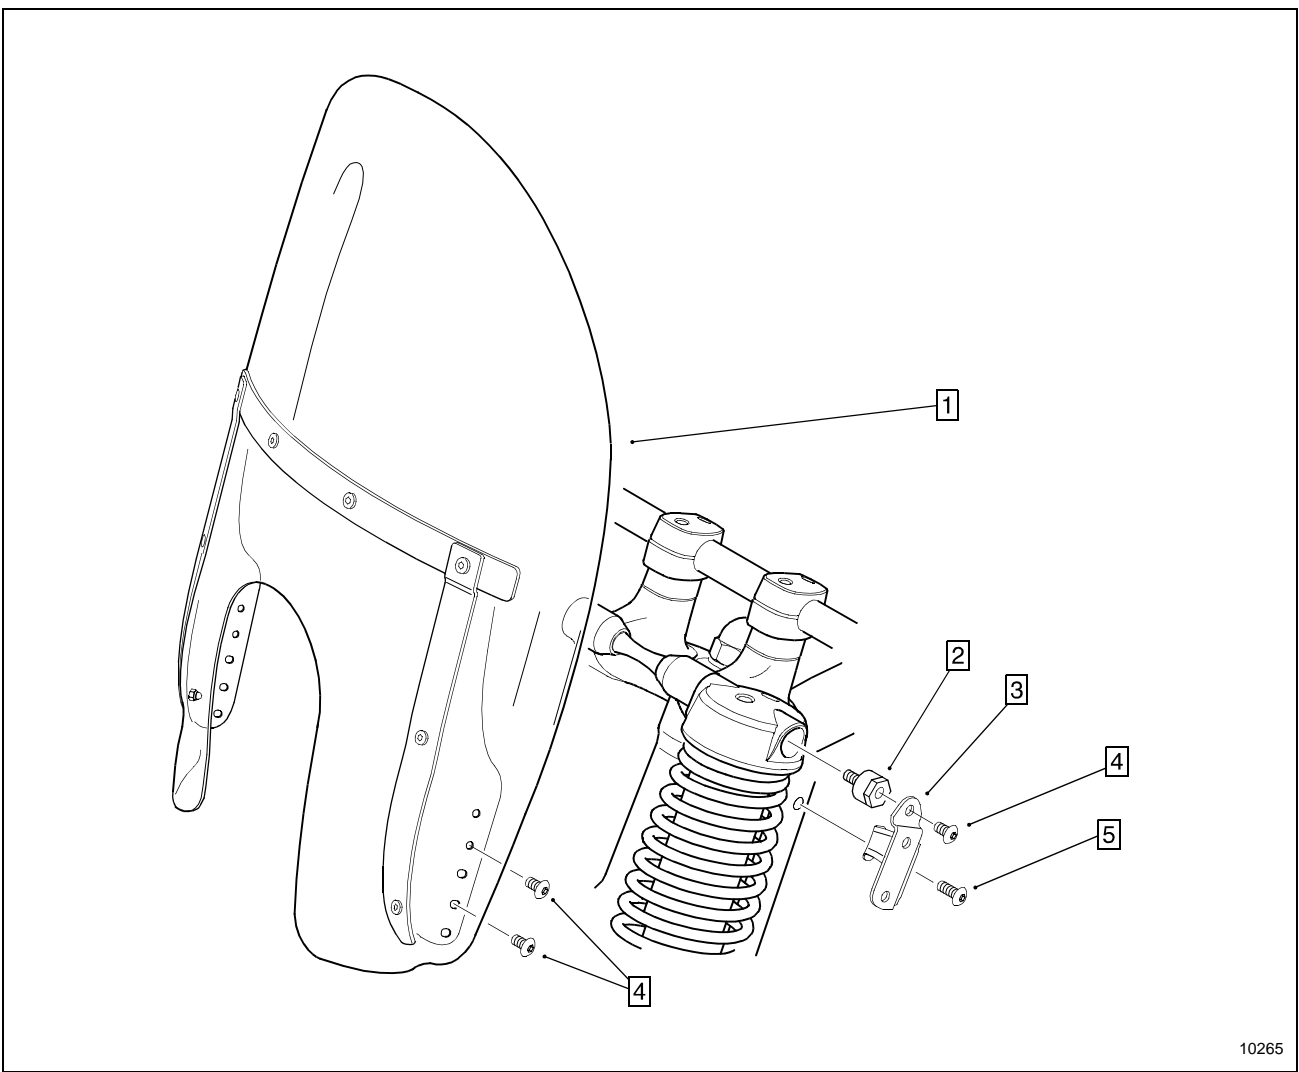

Figure 1
2. Apply a few drops of Loctite® 242 thread locker to the windshield bracket mounting studs and tighten them to the strut axle (see Figure 1).